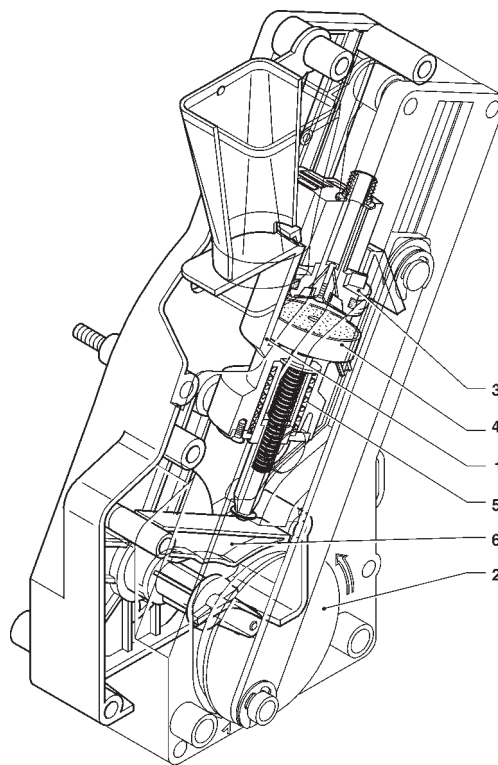

Fig. 20
The ratiomotor handle engaged with the disk (2) located outside of the assembly rotates by 180°, making the brew chamber swing and lowering the upper piston (3) (see Fig. 20).
In addition, when the lever is fully rotated upwards, the ratchet can be released from the groove in the dose regulator (see Fig. 20) and replaced into a different groove to change the average dose setting to: